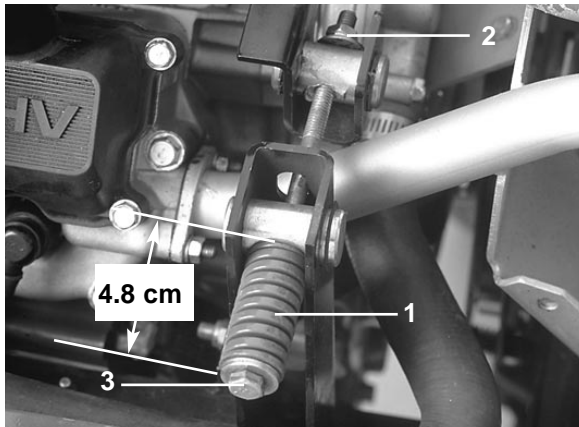

Figure 26
3. When servicing the foam element, check the condition of paper element (Fig. 26). Clean by gently tapping the element to remove dust. Replace element yearly or every 200 hours.
2. Loosen the tensioning rod jam nut (Fig. 26).
3. Loosen the belt tensioning spring (Fig. 26) all the way.
5. Install the new PTO belt and re-tension the pulley spring to 1.9" (Fig. 26).
can be decreased by turning the adjusting nut clockwise (Fig. 26).